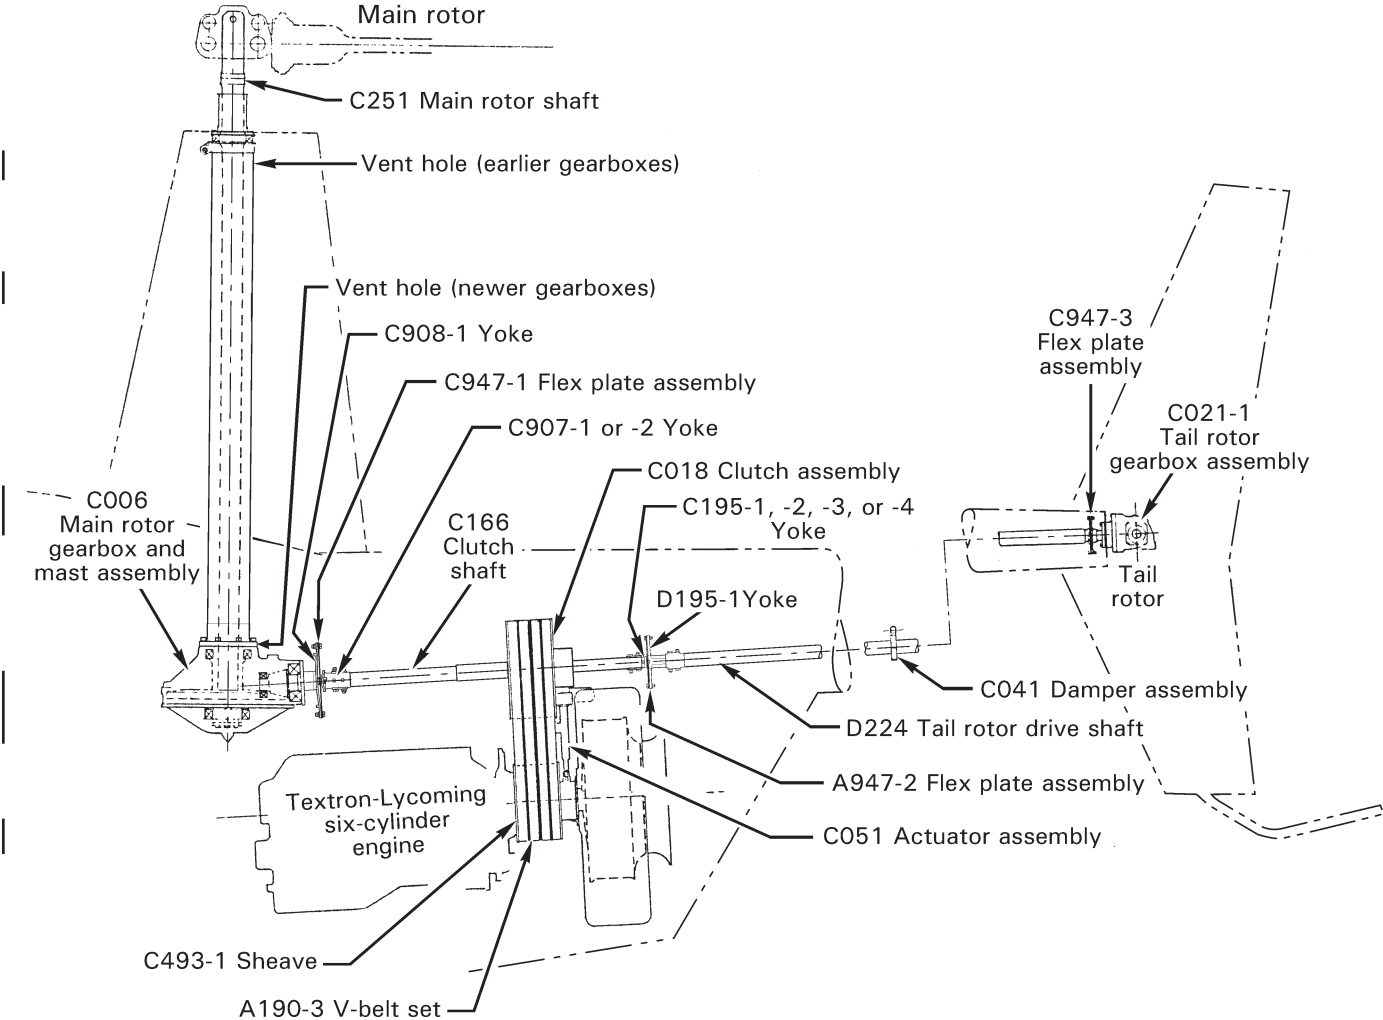

FIGURE 7-1 DRIVE SYSTEM
7.002 Description (see Figure 7-1)